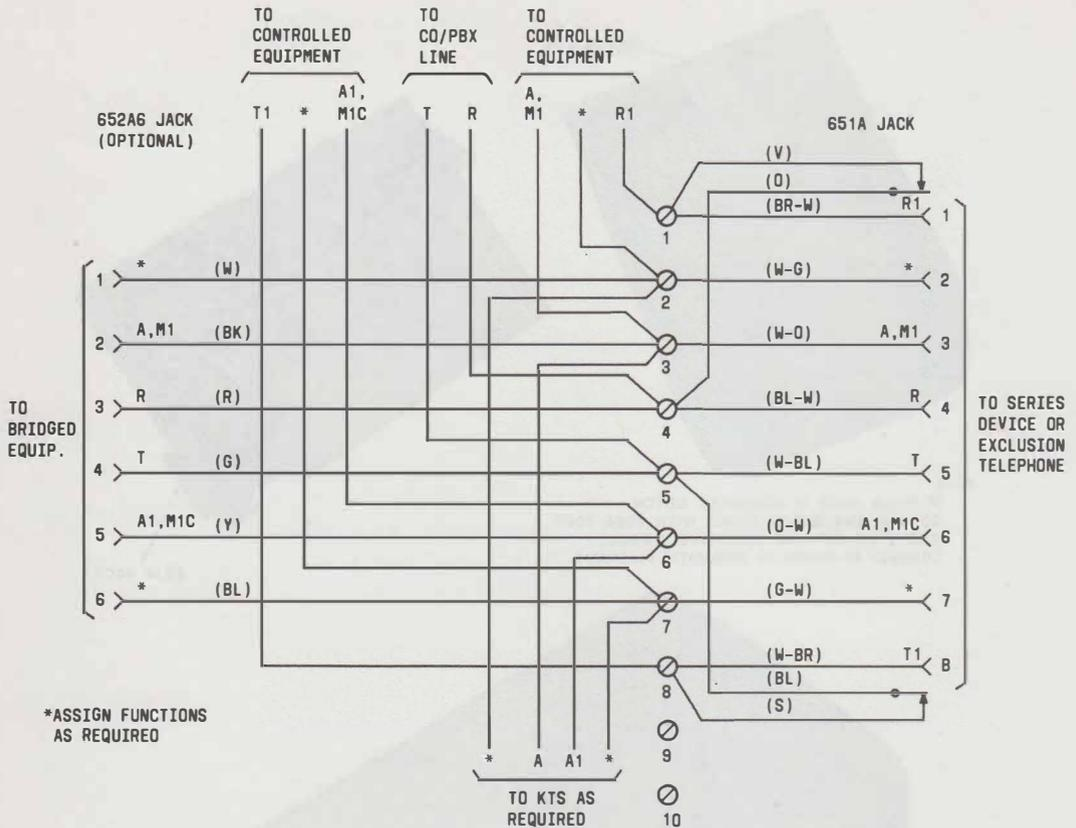

Fig. 13—Schematic Diagram, 635B Connecting Block (Series and/or Bridged Service)
2.15 The **635B** connecting block has an optional feature which provides the field installation of a 652A jack. This jack is used to provide plug-in facilities for either bridged- or series-type arrangements as shown in Fig. 13 and 14.
3.13 635B Connecting Block: Remove the cover from the block by loosening the screw in the center. Mount the block on a suitable vertical surface. Connect the line and control station leads to the screw terminals (Fig. 13). If the optional 652A jack is to be installed, connect as shown in Fig. 13 or 14.